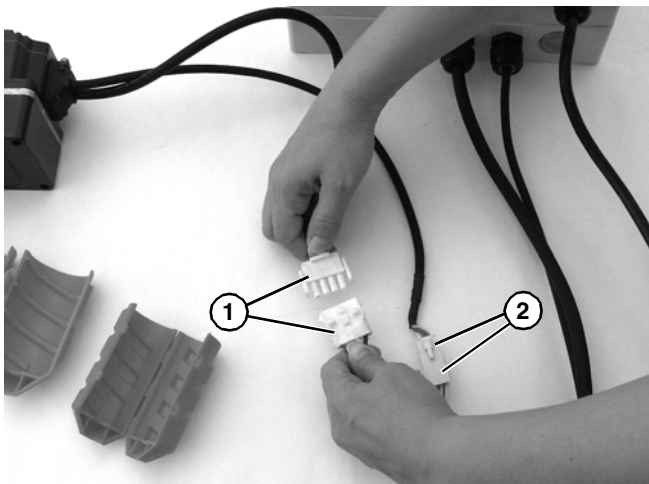

Figure 40
4. Unplug motor cord connectors (Figure 40, item 1) and signal cable connectors (Figure 40, item 2).